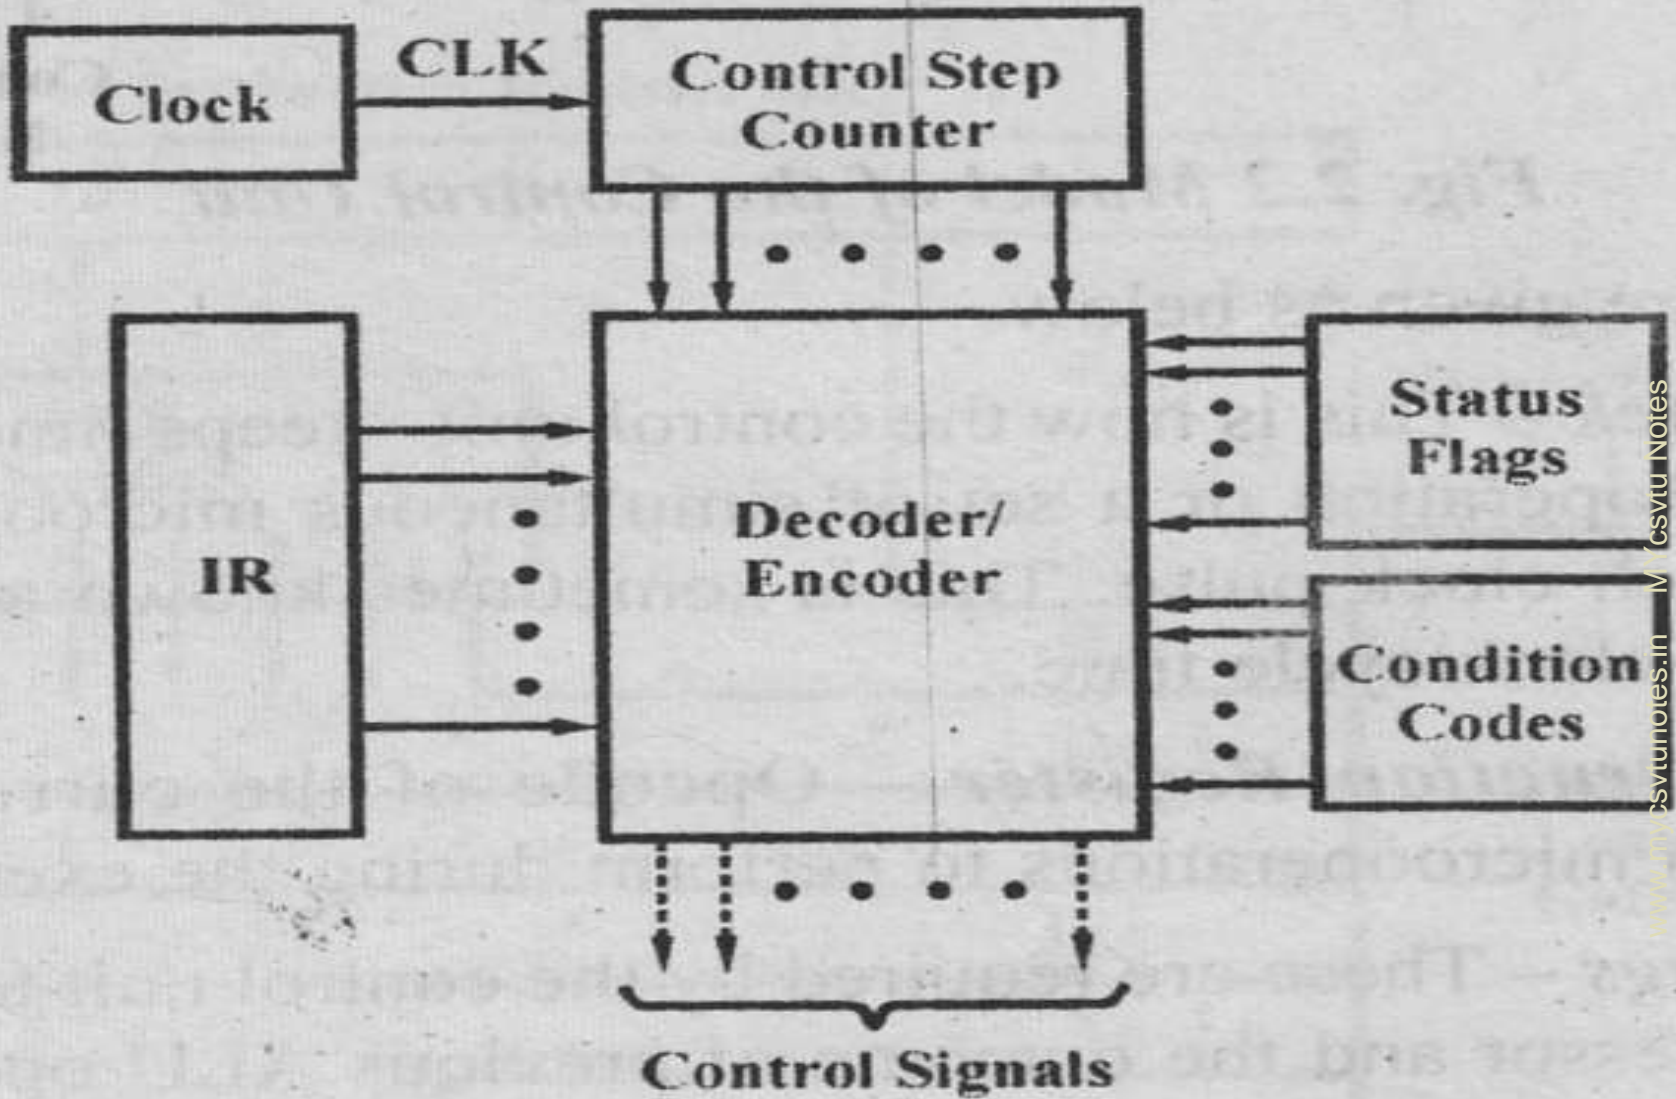

Fig. 2.3 Control Unit Organization
- The decoder encoder block in fig 2.3 is a combinational circuit which produces the required control outputs, depending on the state of all its input.